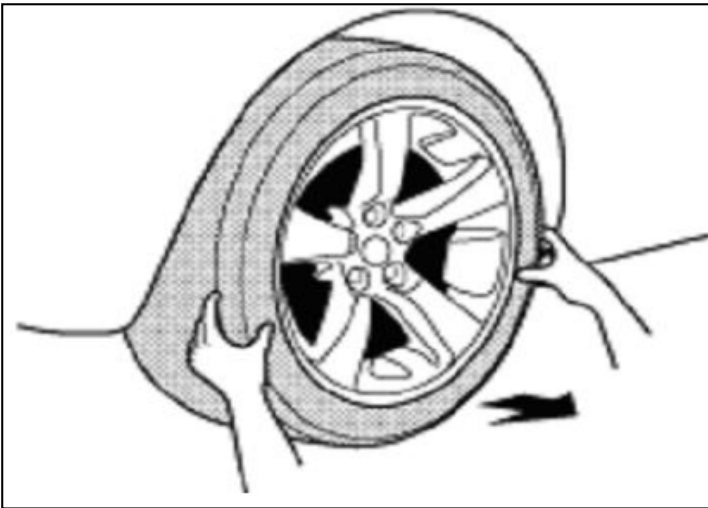

Figure 3a
- +** 4.1 Remove OE wheel and tire assemblies from the vehicle. Wear safety glasses while removing wheels. See Figure 3a.